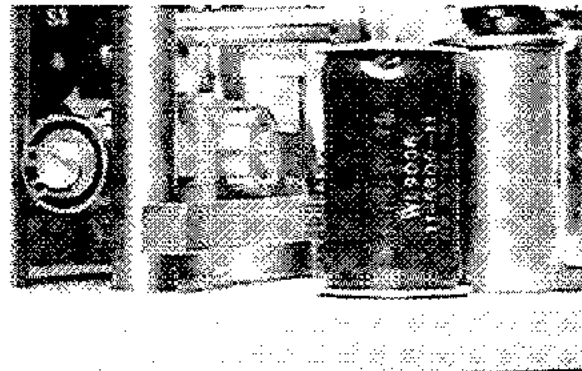

Fig. 6 Sector-Lever Gear
3. Use the handwheel to position the control shaft so that the lever of the lever-sector gear assembly is parallel with the upper bearing plate. See Figure 6 for location of lever and bearing plate.